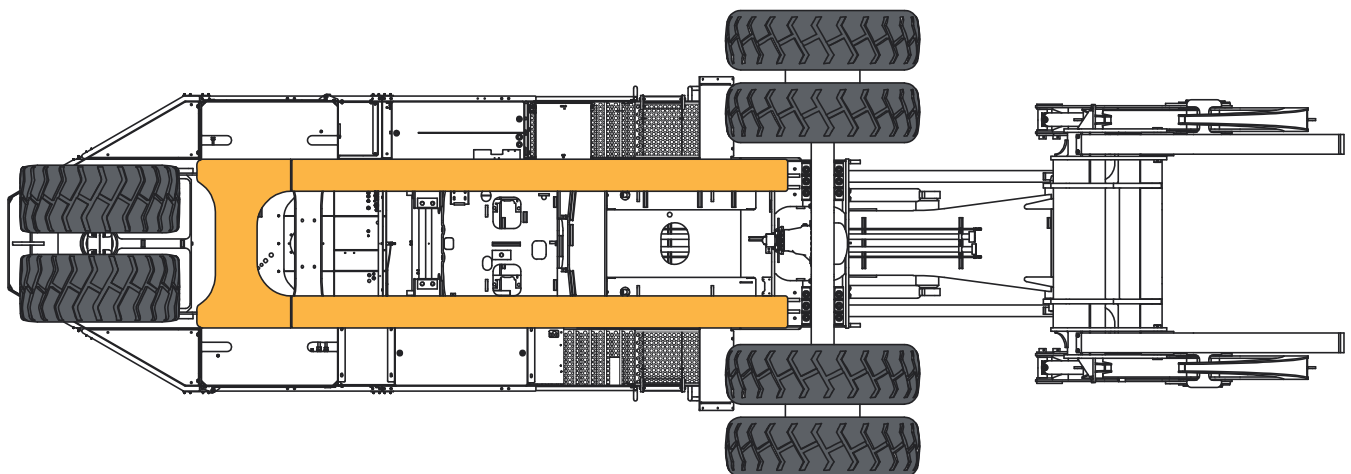

Figure 5-6-1 Jacking Locations, L100
4. See Figure 5-6-1. Jacks and jack stands may be placed anywhere on the bottom 1" steel plate highlighted in yellow. Use pads (anti slip material) that are minimum 4" x 4" in size between jack and Logstacker to prevent damage.